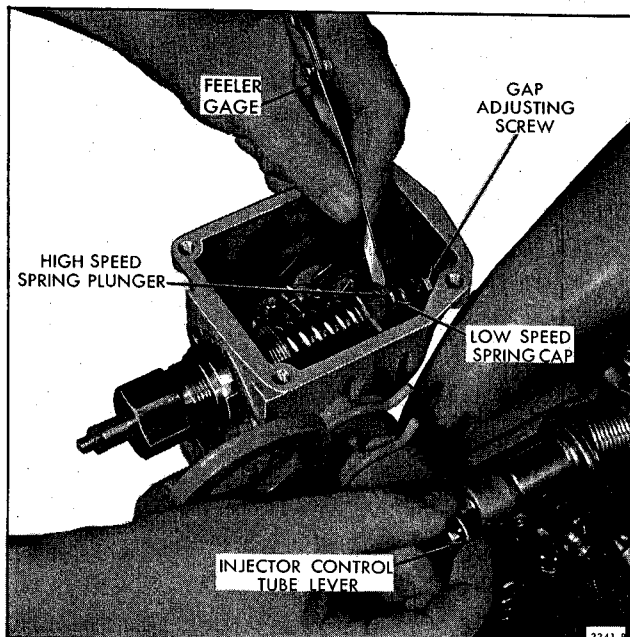

Fig. 4 - Adjusting Governor Gap
7. Check the gap between the low speed cap and the high speed spring plunger with a .0015" feeler gage. If gap setting is incorrect, reset the gap adjusting screw (Fig. 4).